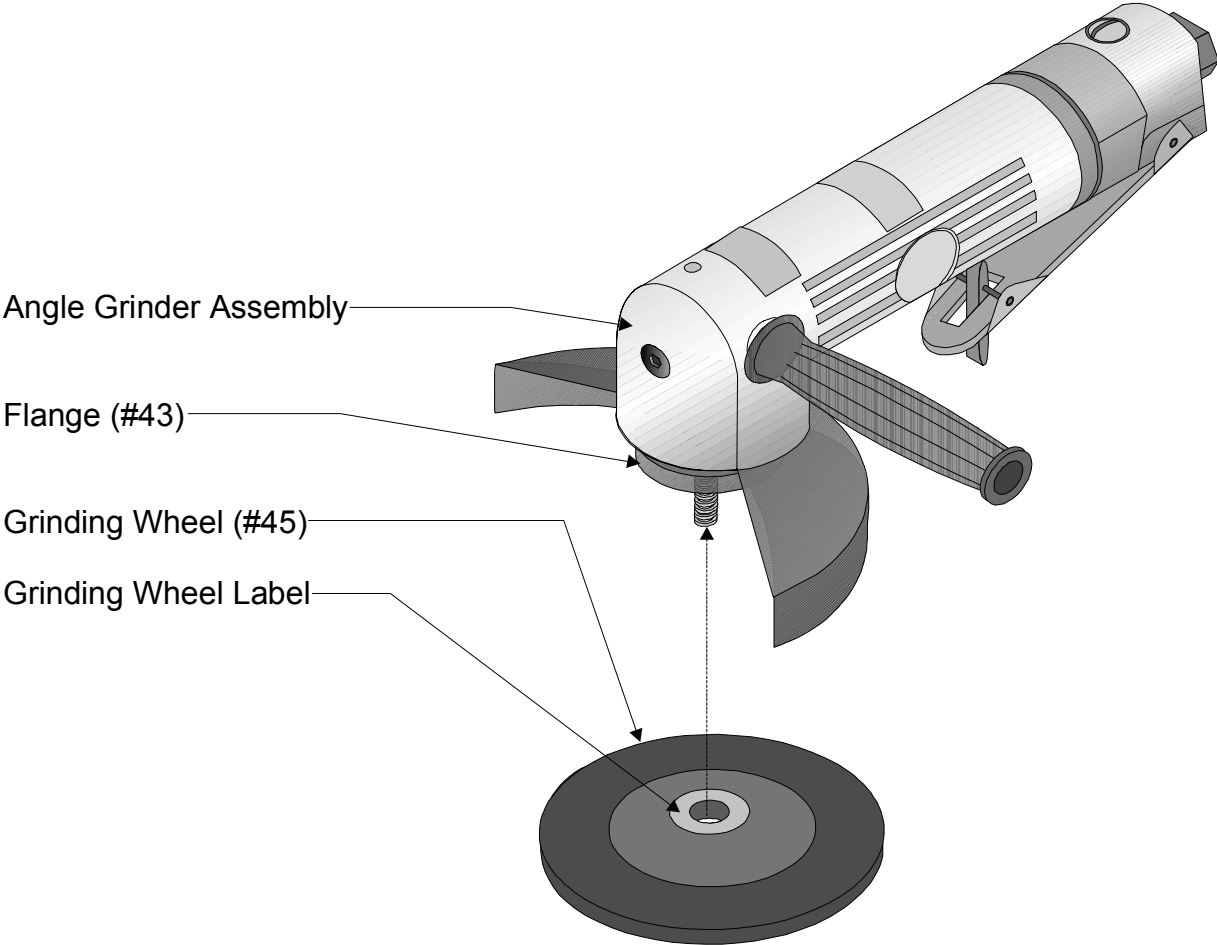

Figure 2 — Attaching the Grinding Wheel
Step 3: Place the GRINDING WHEEL (#45) onto the ARBOR with the Label side of the GRINDING WHEEL against the FLANGE (#43) as shown in Figure 2.